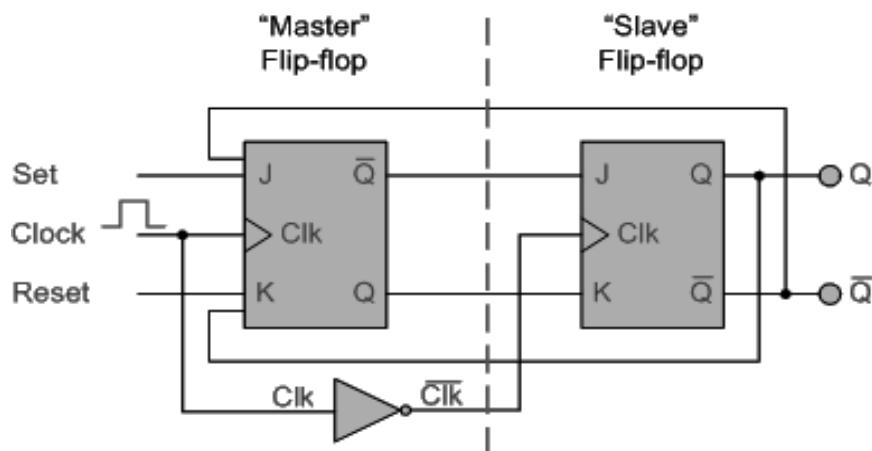

Figure. 1 J K Master Slave Flip flop
A MS JK flip flop is a combinational circuit of clocked JK FF with feedback from output of second FF to the input of first flip flop.(Fig. 1)
3. Make the connections as per the logic diagram shown in Figure. 1